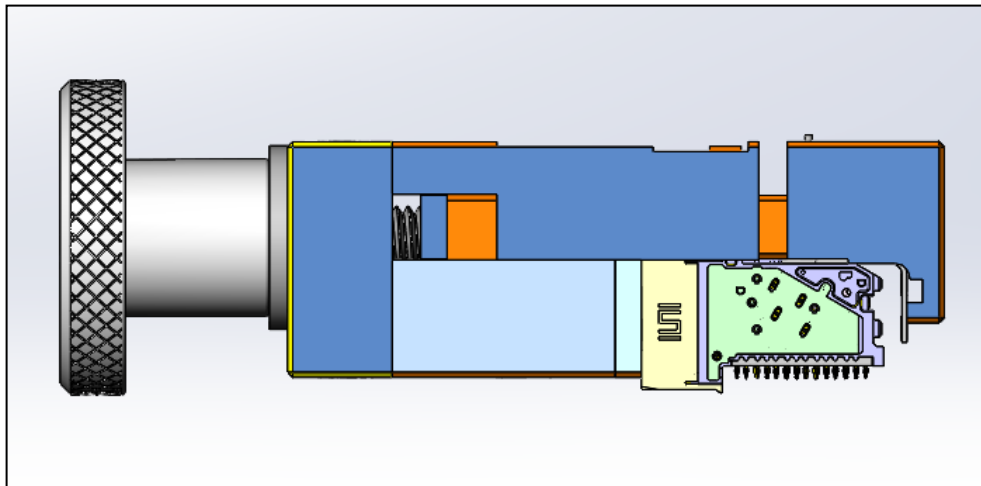

FIGURE 6
4. Orient the stiffener tool above the connector so that the connector will be inside of the open jaws, with the knob facing towards the mating side of the connector as seen in **Figure 6**.